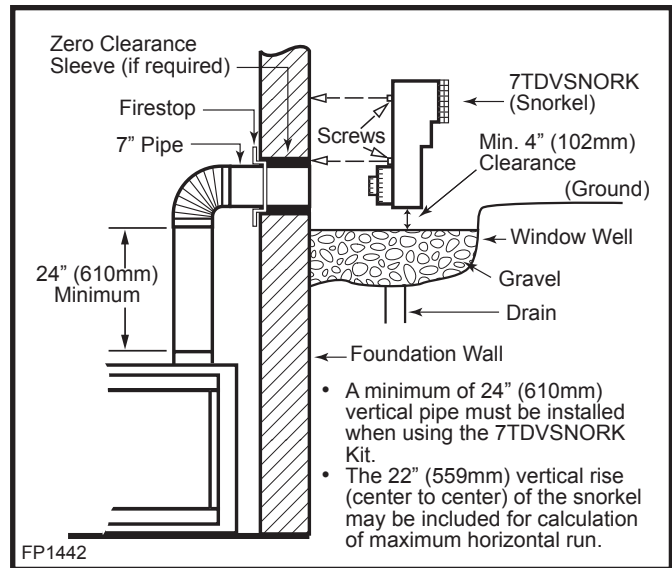

Fig. 28 Below grade installation.
2. Remove soil to depth of about 16" (406 mm) below base of snorkel. Install window well (not supplied). Refill hole with 12" (305 mm) of coarse gravel, leaving a clearance of about 4" (102 mm) below snorkel. (Fig. 28)